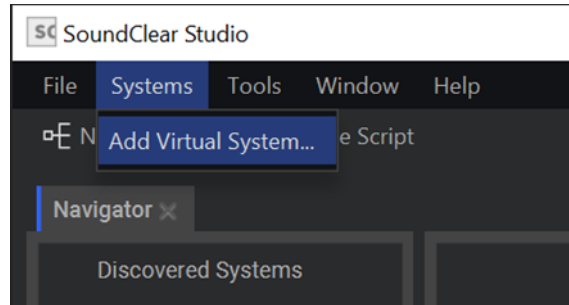

Figure 27. SoundClear Studio - Creating a Virtual System
1. In the **Systems** menu select **Add Virtual System...**, see Figure 27.